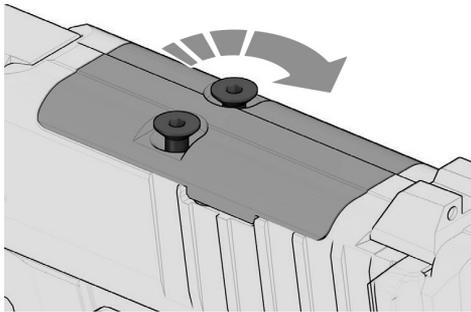

Figure 11 – Tighten screws
4. Tighten screws until the torque is reached (Fig. 11).